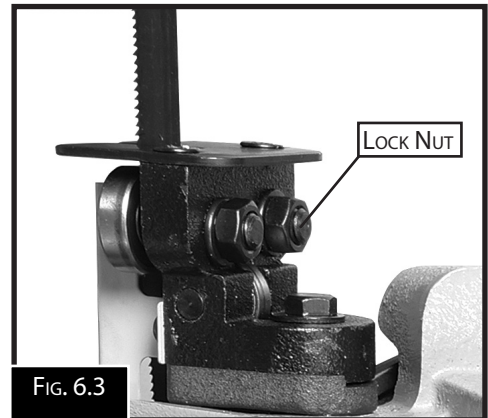

FIG. 6.3
1. Loosen the lock nut on the top of eccentric bolt. (Fig.6.3)